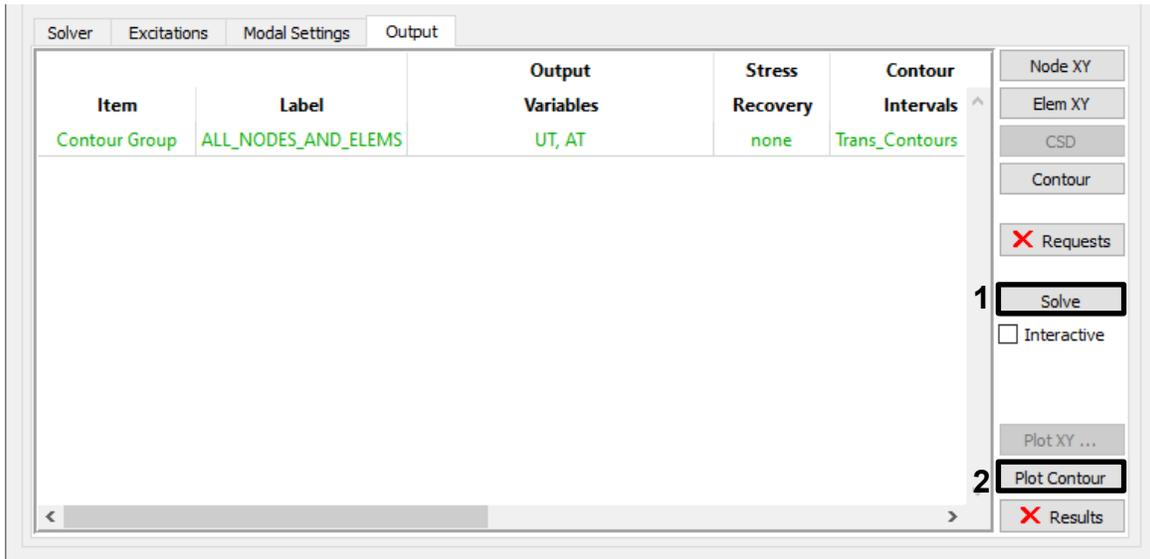

Figure 4-98. Solve for the requested contours and then plot them.
- On the Output tab again, click **Solve** to compute and store the requested contours (Figure 4-98). When the solver finishes, click **Plot Contour** to view the results in Femap. You can simply double-click in Femap's graphics window to start the animation. You can also do any of the usual postprocessing operations such as